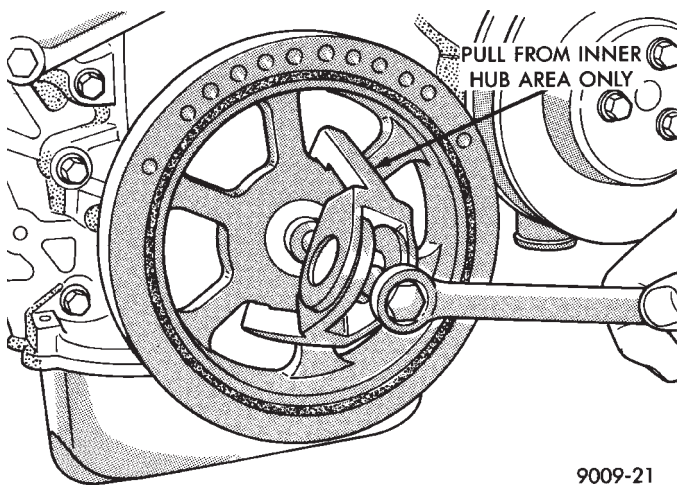
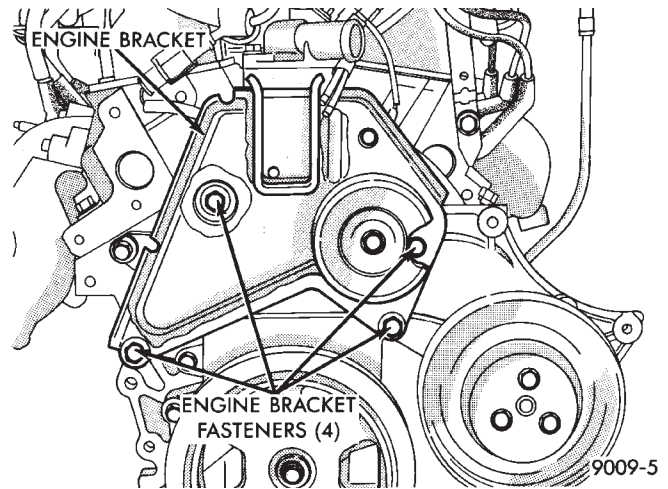

Fig. 1 Removing Crankshaft Pulley
Fig. 2 Engine Bracket
- (1) Disconnect battery.
- (2) Drain cooling system. Refer to Cooling System Group 7 for procedure.
- (3) Support engine and remove right engine mount.
- (4) Raise vehicle on hoist. Drain engine oil.
- (5) Remove oil pan and oil pump pick-up. It may be necessary to remove transmission inspection cover.
- (6) Remove right wheel and inner splash shield.
- (7) Remove drive belt. Refer to Cooling System Group 7 for procedure.
- (8) Remove A/C compressor and set aside.
- (9) Remove A/C compressor mounting bracket.
- (10) Remove crankshaft pulley. (Fig. 1)
- (11) Remove idler pulley from engine bracket.
- (12) Remove engine bracket. (Fig. 2)